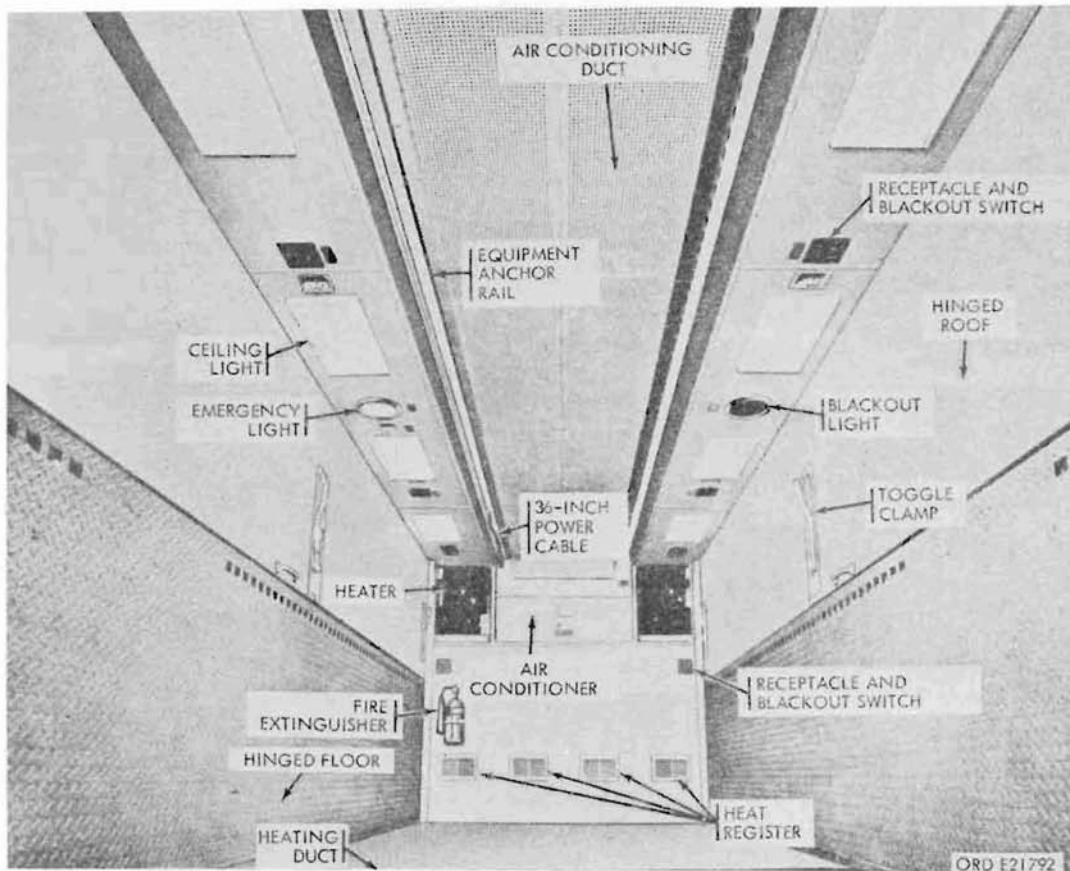
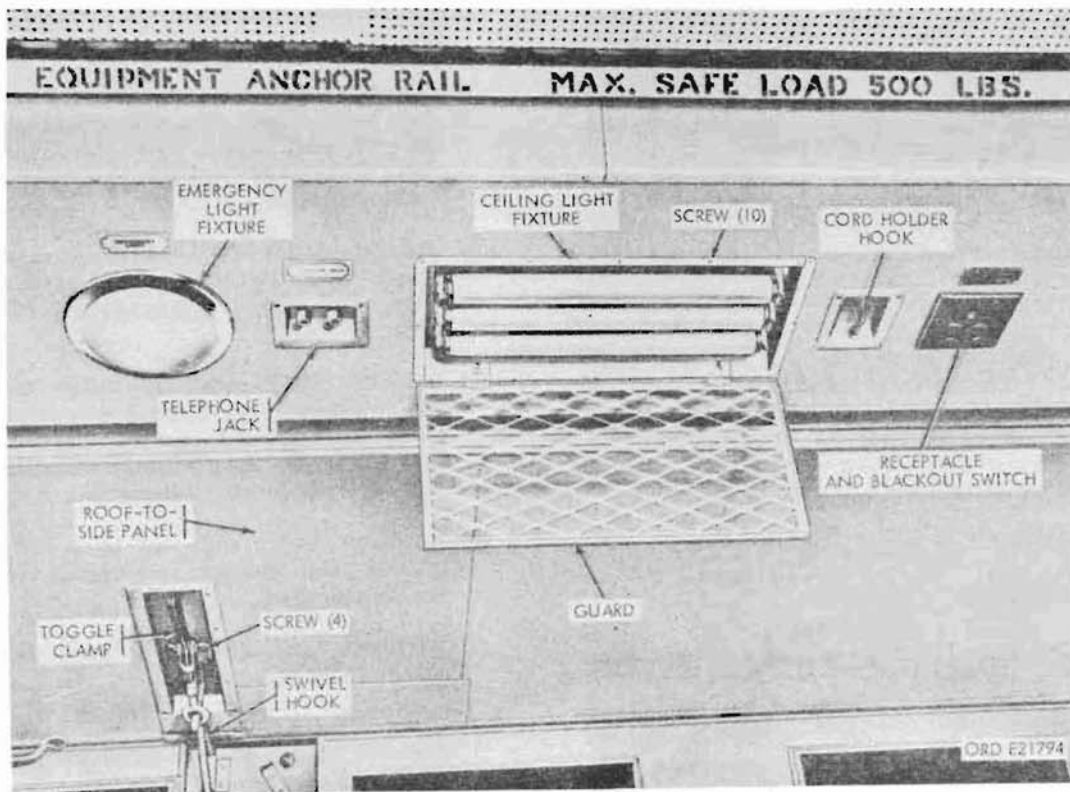

Figure 357. Van body in retracted position - front interior view
Figure 359. Ceiling fixtures and lights
- (4) 36-inch auxiliary power cable. The 36-inch auxiliary power cable (fig. 357) is similar in construction to that of the 100-foot power cable except that only one end is fitted with a receptacle to accommodate the van power entrance receptacle. The opposite end is separated into four individual wires which are used to make connections to an outside power source whose output connector differs from the one on the far end of the 100-foot power cable (3, above). When in use, the auxiliary power cable is plugged into the far end of the 100-foot power cable and the four wires on the auxiliary cable are used to make appropriate connections to the outside power source. The auxiliary power cable is stowed on the left equipment anchor rail attached to the ceiling of the van body.
- (11) Receptacle and blackout switches. Ten combined receptacles and blackout switches located in the van ceiling and front wall (figs. 357 and 359) provide power outlets for operation of 120-volt equipment housed in the van. The integral blackout switches are used to bypass the blackout feature when the equipment must remain in continuous operation, or does not involve a blackout hazard. Cord holder hooks (fig. 359) are placed adjacent to ceiling receptacles to prevent accidental disconnection of power cords.
- (12) Emergency light. The emergency light (figs. 357 and 359) is located approximately in the center of the van ceiling at the left of the air conditioning duct. It consists of a fixture containing a standard 60-watt lamp covered by a white frosted lens. The light is controlled by a separate emergency light switch and operates independently of the main blackout circuit switch and door-operated switches.
- (13) Blackout light. The blackout light (fig. 357) is located approximately in the center of the van ceiling at the right of the air conditioning duct. It is similar to the emergency light, except that it is equipped with a 25-watt blue lamp and blue lens. The light operates in conjunction with the blackout relay and blackout door-operated switches, and is automatically turned on when the doors are opened, and off when they are closed, when the main blackout switch is in the ON position.
- (14) Ceiling fixtures and lights. Eight rectangular ceiling light fixtures (figs. 357 and 359) are located in the van ceiling on either side of the air conditioning duct. Each contains three 20-watt fluorescent tubes, two 60-watt lamps, and light switches. The tubes and lamps are protected by a hinged wire-mesh guard.
d. Heating System. The van heating system incorporates two gasoline-burning, 60,000 Btu-noncontaminating, hot air heaters operating on 120-volt ac, 60-cycle, single phase power. The heaters are located in the van bonnet on either side of the air conditioner (fig. 357). Control facilities permit circulation of both heated and unheated fresh air drawn from outside the van, mixed with heated and unheated air drawn from inside the van. The proportion of outside and inside air may be varied. Hot air ducts in the van front wall conduct heated air from the heaters into the van interior through four heat registers (fig. 357) in the van front panel, when the registers are open. When the registers are closed, the heated air is conducted through
e. Air Conditioning System. The van air conditioning system, located in the van bonnet (fig. 365) incorporates a 24,000 Btu, package-type, air-cooled, air conditioned unit operating on 208-volt ac, 3-phase power. Control facilities permit circulation of both cooled and uncooled air drawn from outside the van, and cooled and uncooled air drawn from inside the van. The proportion of outside and inside air may be varied. A perforated air conditioning duct (fig. 357), located on the van ceiling, conducts cooled or uncooled air to the van interior.
326. Roof-to-Side Panel Toggle Clamps (Fig. 359)